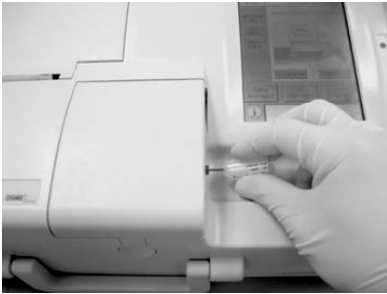

Fig. 4-23 Direct Aspiration
13. Hold the ampoule at a 45° angle during aspiration (Fig. 4-23). Use a new ampoule for each sample.